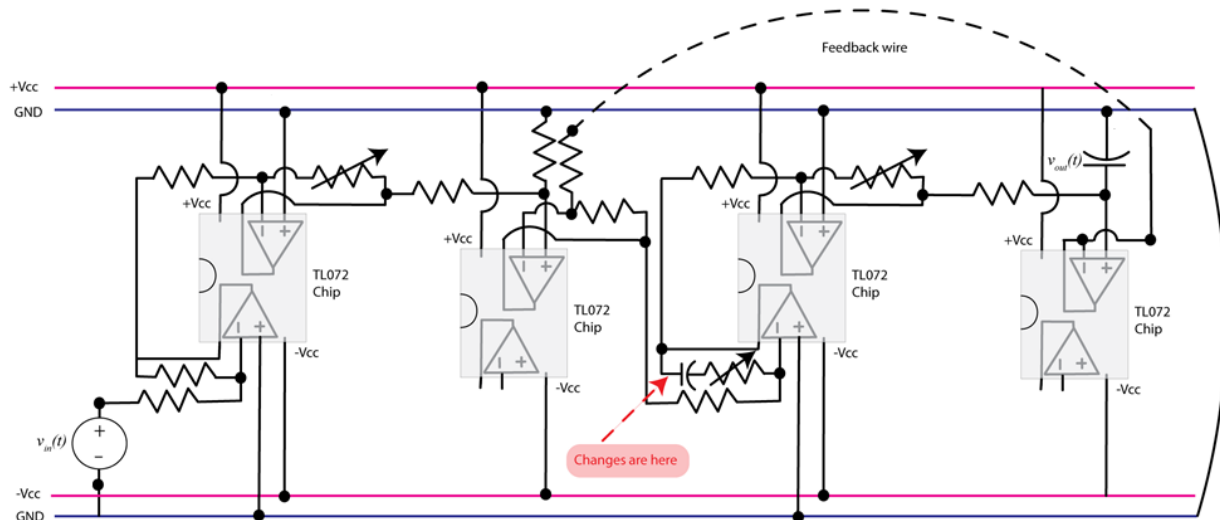

Figure 15: PI Controller Schematic
- In this part, you will change the proportional controller to a proportional plus integral controller to determine how it affects the first order plant. This requires only slight modification in the circuit to make it look like Figure 15.
- Remove the $1\text{ k}\Omega$ feedback resistor between pins 1 and 2 on the proportional controller with a $1\text{ }\mu\text{F}$ capacitor in series with a variable resistor (see Figure 15).